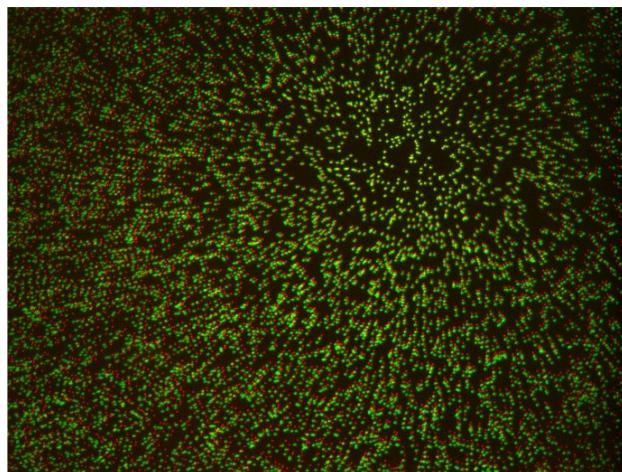

Figure 9: overlay (2.5 beads) of camera 1 and 2 (3)
For the adjustment of camera 2 (3) it can be easier to use a bead plate instead of the service adjustment plate. Go to a well with small beads ($\varnothing = 2.5 \mu\text{m}$) and try to optimize the overlay of camera 1 and 2 (3) by watching the beads in “Live” mode of camera 2 (3). The cameras should be adjusted in that way that the best overlay of the beads is in the middle of the picture (see *Figure 9*).